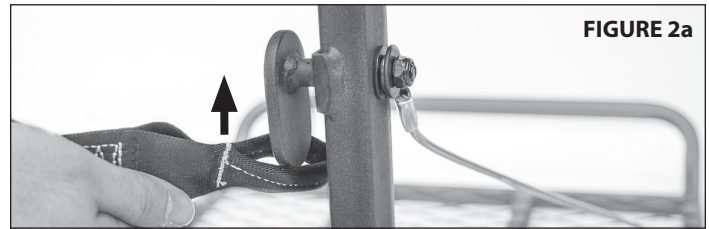

FIGURE 2a
1. The Big Foot XL strap (18063) can be attached so that the sewn loop side with the float buckle can be put on either side of the treestand depending on your left or right hand installation preference. Make sure to always orientate climbing aid to the float buckle side of the strap. Start by attaching the sewn loop of the long side strap to either the left or right side of treestand by sliding sewn loop completely over the oval mount. **SEE FIGURES 2a AND 2b.**